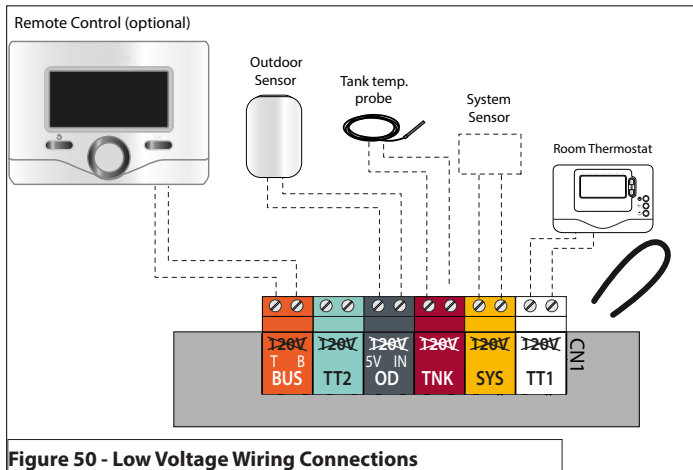

Figure 50 - Low Voltage Wiring Connections
- Connect the room thermostat wires to the terminals indicated in Table 19 and Figure 50.